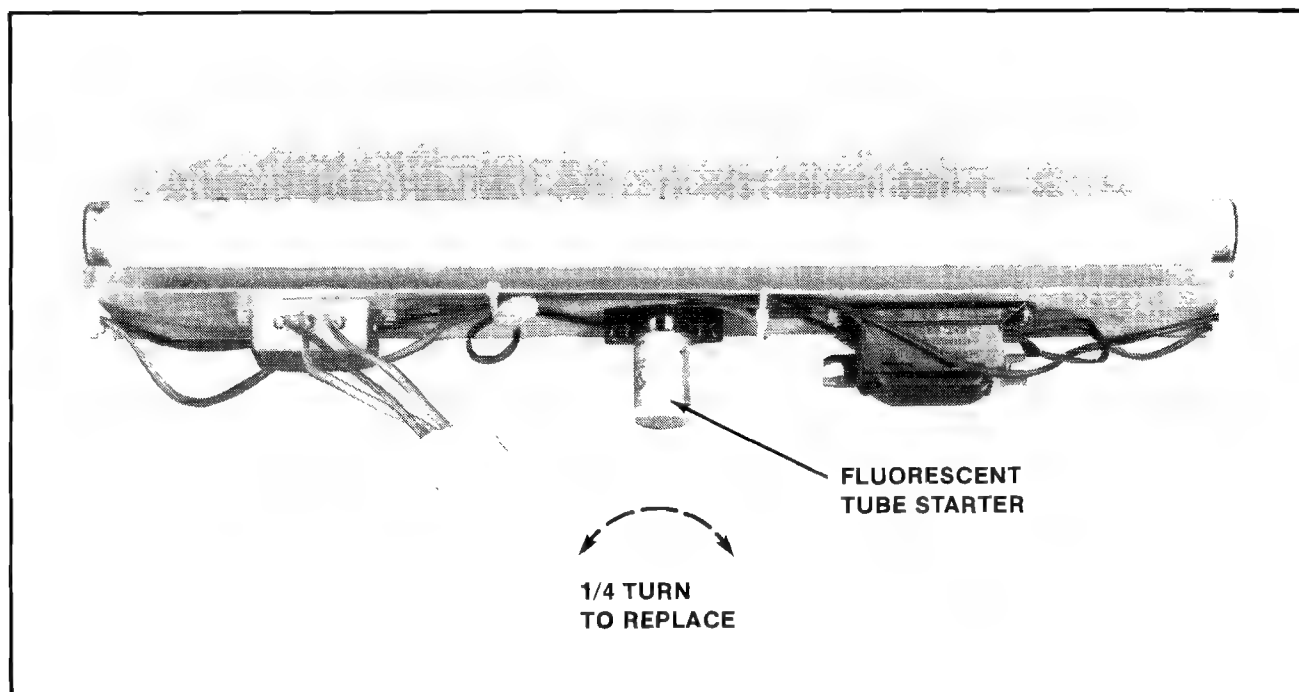

Figure 3-15 Replacing Fluorescent Tube Starter
- ☐ Replacing the fluorescent tube starter. See Figure 3-15.
4. Replacing the black light tube starter. See Figure 3-15.